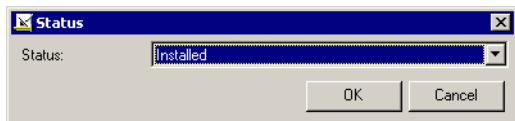

Figure 9: Status Field Window
7. Double-click on the **Status** box in the New Template dialog box shown in Figure 9 to open the Status field window.